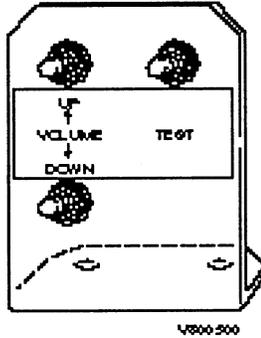

Figure 8: Test Bracket
21. An optional Test/Volume bracket (see Figure 8) is included in this kit. Your cabinet may already contain this bracket. If you decide to install, the bracket should be mounted inside the coin door and on top of the cash box for easy access.